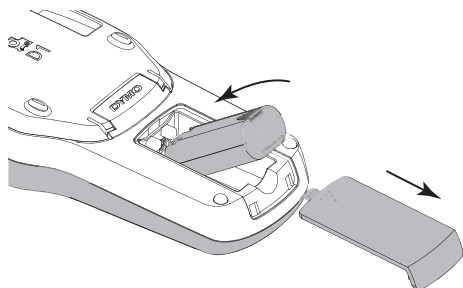

Figure 2
- 1 Slide the battery compartment cover away from the label maker. See Figure 2.
- 2 Slide the battery compartment cover away from the label maker. See Figure 2.